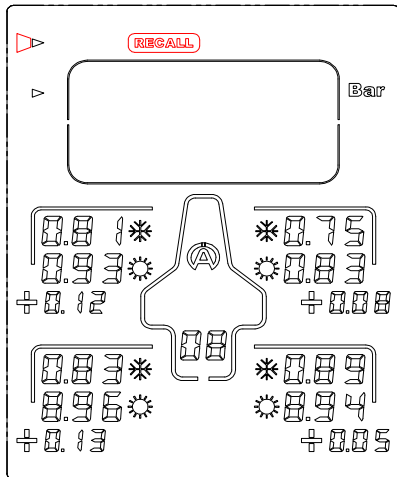

Figure 6
- 1) With the help of the buttons      , select the icon « **RECALL** » (figure 6)